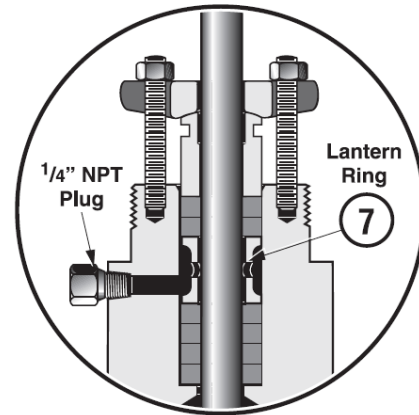

Figure 2: Lubricator Connection (Optional)
Note: On valves equipped with an optional lubricator connection, refer to Figure 2 for correct amount of rings to place under the lantern ring (17).
- E. Replace packing follower (12) and packing flange (13).
- F. Replace and tighten packing stud nuts (15).
- L. If a leak detection connection was installed, connect it on the lateral NPT port in the bonnet. If not, insure that the 1/4" NPT plug remained in place (Figure 2).
L. If a leak detection connection was installed, connect it on the lateral NPT port in the bonnet. If not, insure that the 1/4” NPT plug remained in place (Figure 2).